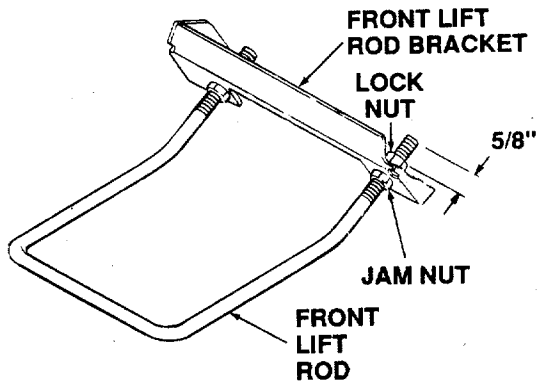

Figure 33
3. Initially adjust the front lift rod to allow 5/8 inch of thread to protrude beyond both lock nuts of the front lift rod/bracket assembly (Refer to Figure 33).
6. To adjust the downward tilt of the blades, adjustment of the front lift rod is required. Refer to Figure 33 and proceed as follows: